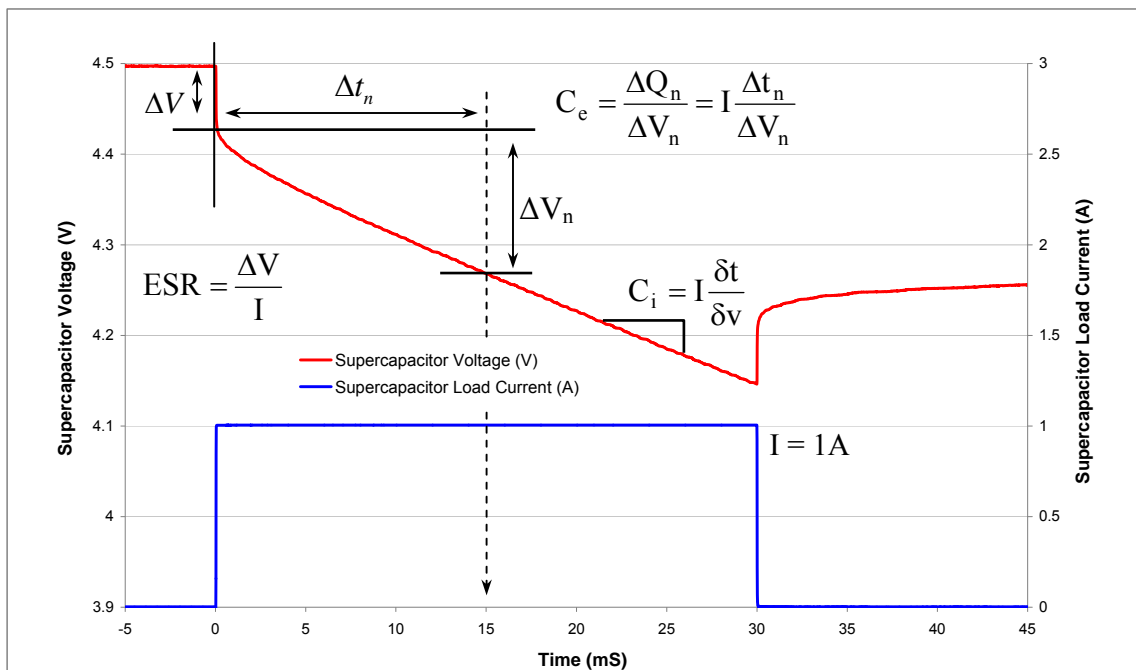

Figure 1: Definitions for Effective Capacitance, Instantaneous Capacitance and ESR
In its simplest form, the Equivalent Series Resistance (ESR) of a capacitor is the real part of the complex impedance. In the time domain it can be found by applying a step discharge current to a charged capacitor as in figure 1. In this figure the supercapacitor is pre-charged and then discharged with a constant current pulse (I). The ESR is found by dividing the instantaneous voltage step (ΔV after 50 μ sec from start of current pulse) by I. The instantaneous capacitance (C_i) can be found by taking the inverse of the derivative of the voltage and multiplying it by I. The effective capacitance (C_e) is found by dividing the total charge removed from the capacitor (ΔQ_n) by the voltage lost by the capacitor (ΔV_n). Note that ΔV , or IR drop, is not included because this is the voltage drop due to ESR. C_e shows the time response of the capacitor and it is useful for predicting circuit behaviour in pulsed applications.
In the example of Fig 1, using a GW209, $\Delta V = 4.49V - 4.42V = 0.07V$, $I = 1.0A$, so $ESR = 0.07V/1.0A = 70m\Omega$. Similarly for $C_{effective}$ at 15mS $\Delta V_n = 4.42V - 4.26V = 0.16V$, $\Delta t_n = 15mS$, and $I = 1.0A$. Therefore, $C_{e(15mS)} = 1.0A \times 15 \times 10^{-3}s / 0.16V = 94mF$.